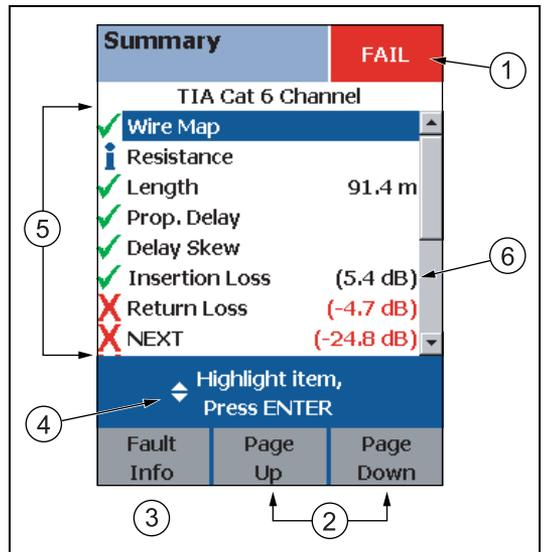

Figure 5. Autotest Summary for Twisted Pair Cabling
- 5 The tester shows the Autotest **Summary** screen when the test is complete (Figure 5). To view results for a specific parameter, use **▲** **▼** to highlight the parameter; then press **ENTER**.